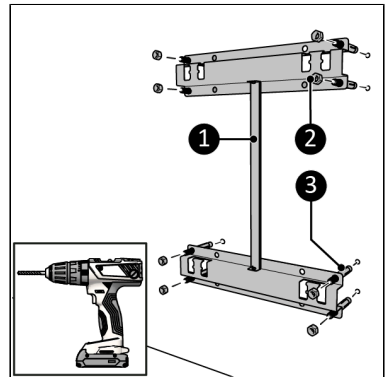

Figure 30.
3. Place the anchor bolts (Figure 30, pos 3).
4. Tighten the wall bracket (Figure 30, pos. 1) to the wall with the eight nuts (Figure 30, pos. 2).